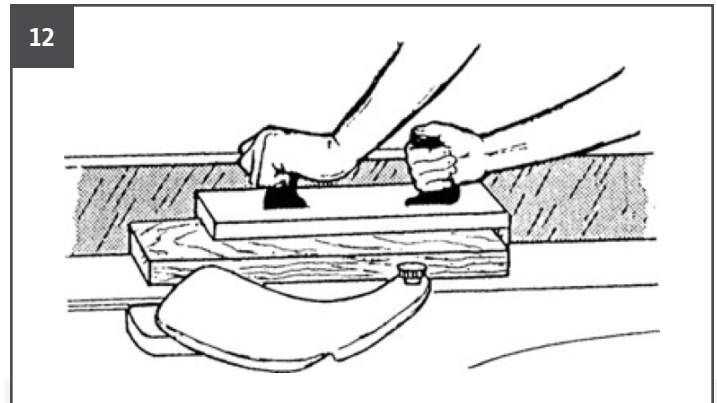

FIGURE 12: TWO-HANDED PUSH BLOCK
- Use a two-handed push block for surfacing stock 8" to 12" long. See Figure 12.